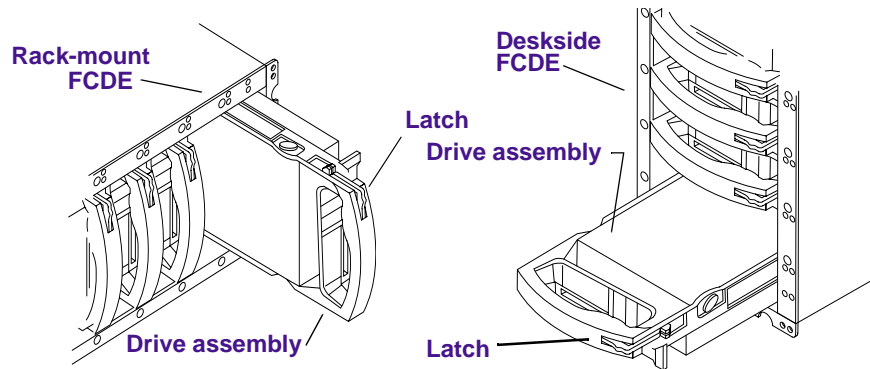

Figure 1-13 Inserting a Drive into the FCDE
4. Align the drive assembly with the guides in the FCDE (see Figure 1-13).